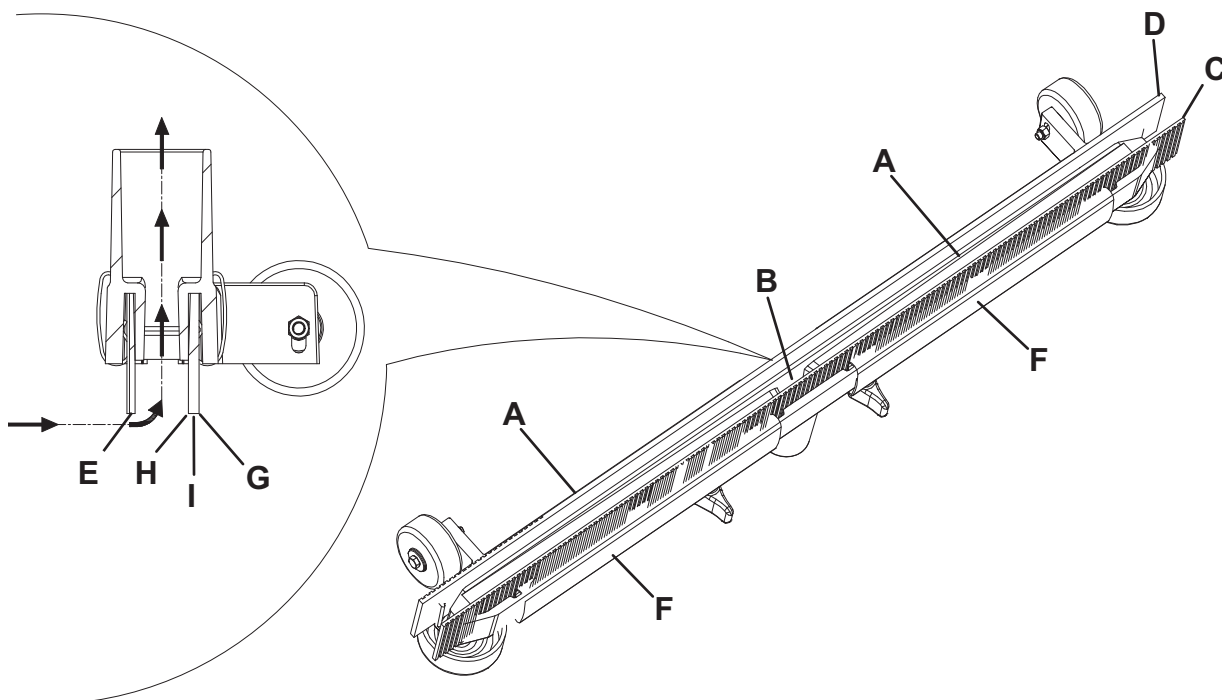

Figure 6
3. Lower the squeegee with the lever (19).
4. Disconnect the vacuum hose (22) from the squeegee.
5. Loosen the handwheels (12) and remove the squeegee (11).
6. Wash and clean the squeegee; in particular, clean the compartments (A, Fig. 6) and the vacuum hole (B) from dirt and debris.
7. Check the front blade (C) and the rear blade (D) for integrity, cuts and tears; if necessary replace them (see the procedure in the following paragraph).
2. Check that the edges of the front blade (E, Fig. 6) and of the rear blade (I) lay down on the same level, along all their length; otherwise adjust their height as shown below:
- Remove the fixing springs (F) and adjust the front blade (C) and the rear blade (D).
3. Check the front blade (C) and rear blade (D) for integrity, cuts and tears; otherwise replace them according to the following procedure. Also check the front corner (H) of the rear blade for wear; if it is worn, overturn the blade to replace the worn corner with the other one (I), if it is integral. If the other corner is worn too, replace the blade according to the following procedure:
- Remove the fixing springs (F) and replace (or overturn) the rear blade (D).
4. Install the squeegee (11) and screw down the handwheels (12).
5. Connect the vacuum hose (22) to the squeegee (11).